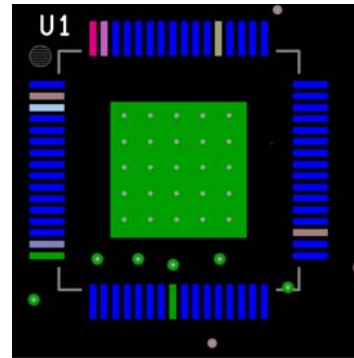

FIGURE 146. RECOMMENDED LAYOUT PATTERN FOR VIAS ON THE IC BOTTOM PAD
6. Place multiple vias under the thermal pad of the IC. The thermal pad should be connected to the ground copper plane with as large an area as possible in multiple layers to effectively reduce the thermal impedance. Figure 146 shows the layout example for vias on the IC bottom pad.
- Place multiple vias under the thermal pad of the IC and connect them to all of the available ground planes. Each parallel via represents a thermal conductor and an electrical admittance. Use them liberally, see Figure 146 on page 118.